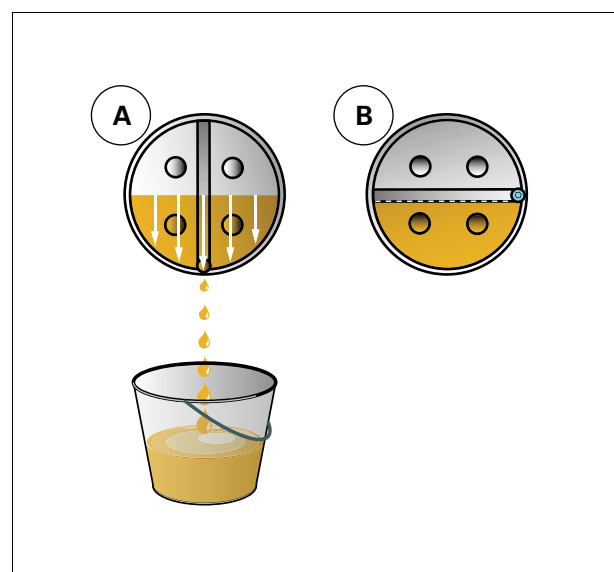

Fig. 3.
1. Turn the wheel until the plug is horizontally aligned with the centre of the hub (B) *fig. 3*.